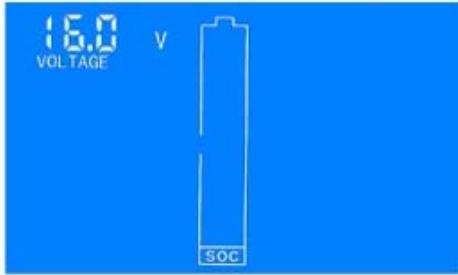

Figure 5: cut-off voltage setting interface(low bit)
Step 1: After you set the full voltage, longer press the button until LCD shows the interface of Fig. 5, then release the button;